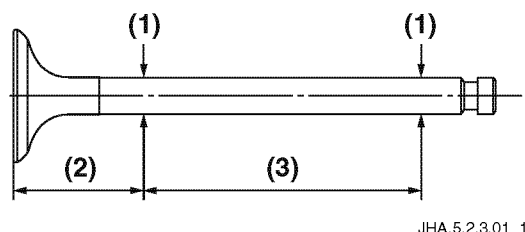
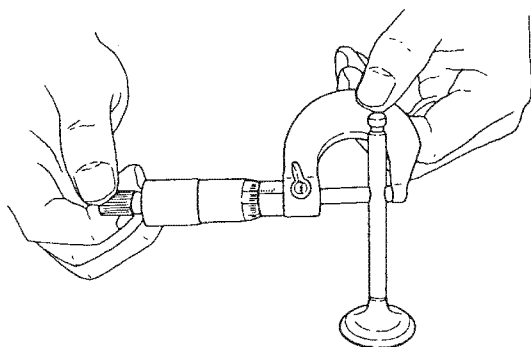

Figure 5-15
Figure 5-16
1. Measure the diameter (**Figure 5-15** and **Figure 5-16**) of each valve stem and check for excessive wear and corrosion.